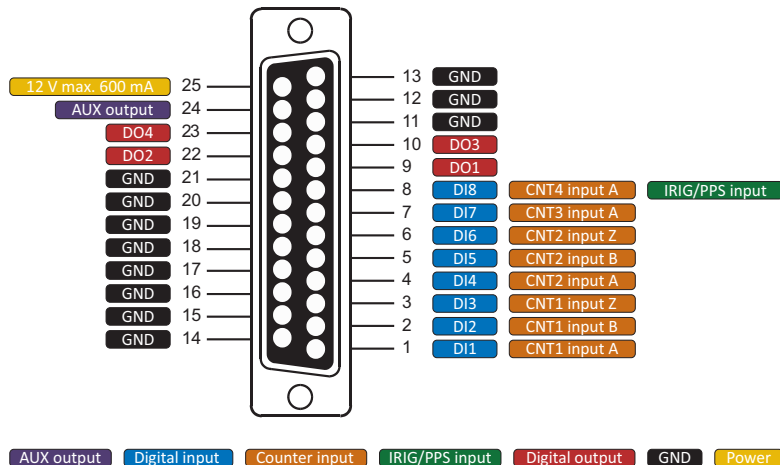

Fig. 10: Pin assignment D-SUB-25 connector
The supports an advanced counter via the pins 1–8 of the digital I/O connector shown in *Fig. 10*. For information regarding advanced counters refer to Functional description of advanced counter on page 189 of the TRION(3) series modules manual.